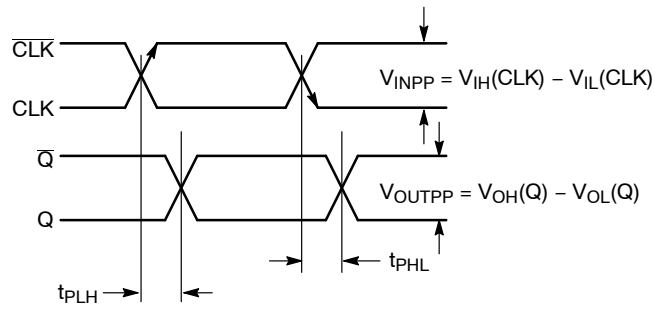

Figure 14. AC Reference Measurement
27. See Figure 14.  $t_{SKEW} = |t_{PLH} - t_{PHL}|$  for a nominal 50% differential clock input waveform.
31. See Figure 14.  $t_{SKEW} = |t_{PLH} - t_{PHL}|$  for a nominal 50% differential clock input waveform.